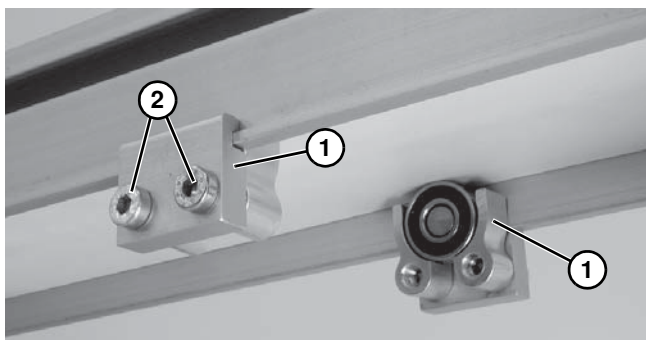

Figure 14
3. Install roller assemblies (**Figure 14, item 1**) as shown. Tighten screws (**Figure 14, item 2**) to 7 Nm.